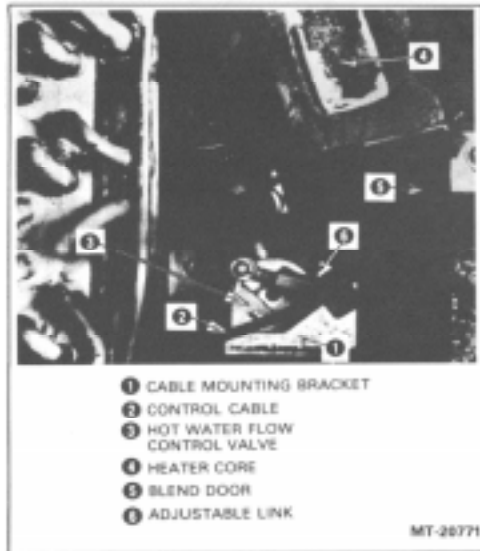

Figure 22. - Hot Water Flow Control Valve Connections
Refer to Figures 22 and 23.
6. Remove control cable mounting screw from mounting bracket (Figure 22). Disconnect control cable from blend-air door.